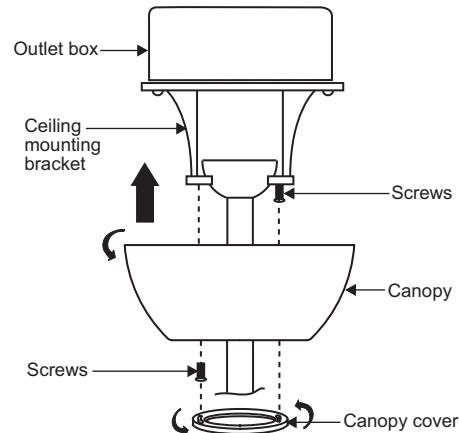

Fig. 13
Make each of the wire connections illustrated in Figure 13. Secure each with the wire nuts provided. (Fig. 12)
Step 2. Slide the canopy up to the mounting bracket and place one of the key hole slots over the mounting screw on the mounting bracket. Rotate the canopy until the screw head locks in place at the narrow section of the key hole. See figure 13.
NOTE: Adjust the canopy screws as necessary until the canopy and canopy cover are snug. (Fig. 13)